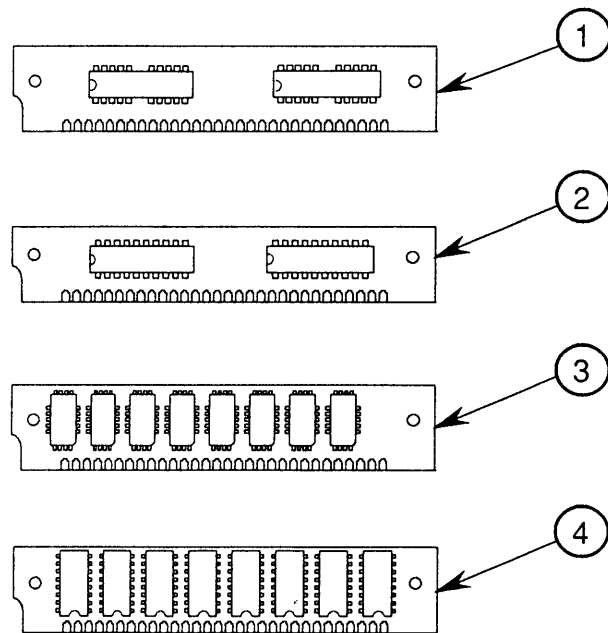

FIGURE 6
- 256K SOJ SIMM (Figure 6, #1)
- 256K DIP SIMM (Figure 6, #2)
- 256K PLCC SIMM (Figure 6, #3)
- 256K DIP SIMM (Figure 6, #4)